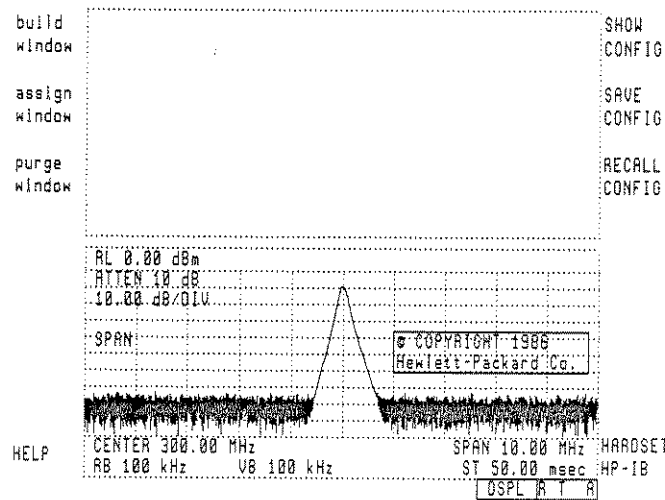

Fig. 22
5. Press **EXECUTE**. The trace output from that measurement instrument should appear in the window as in Figure 22.